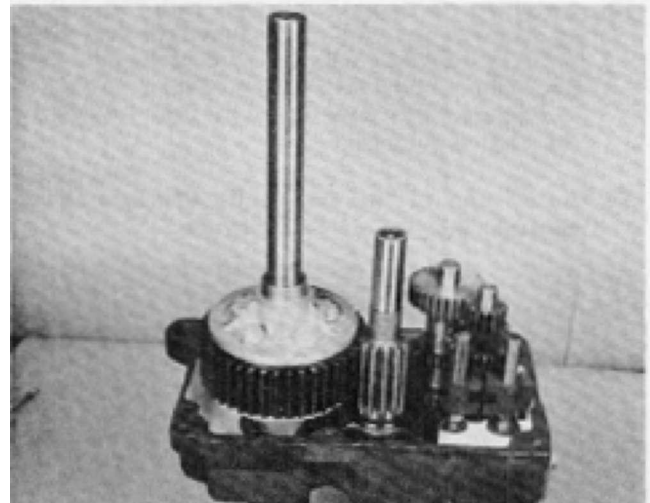

FIGURE 19
18. Install the differential and axle assembly with the long end cap and the retaining bolt nuts **down** into the right hand case. Figure 19.
21. Install the six (6) 3/8" x 16 bolts and nuts and tighten all bolts evenly to avoid distortion.